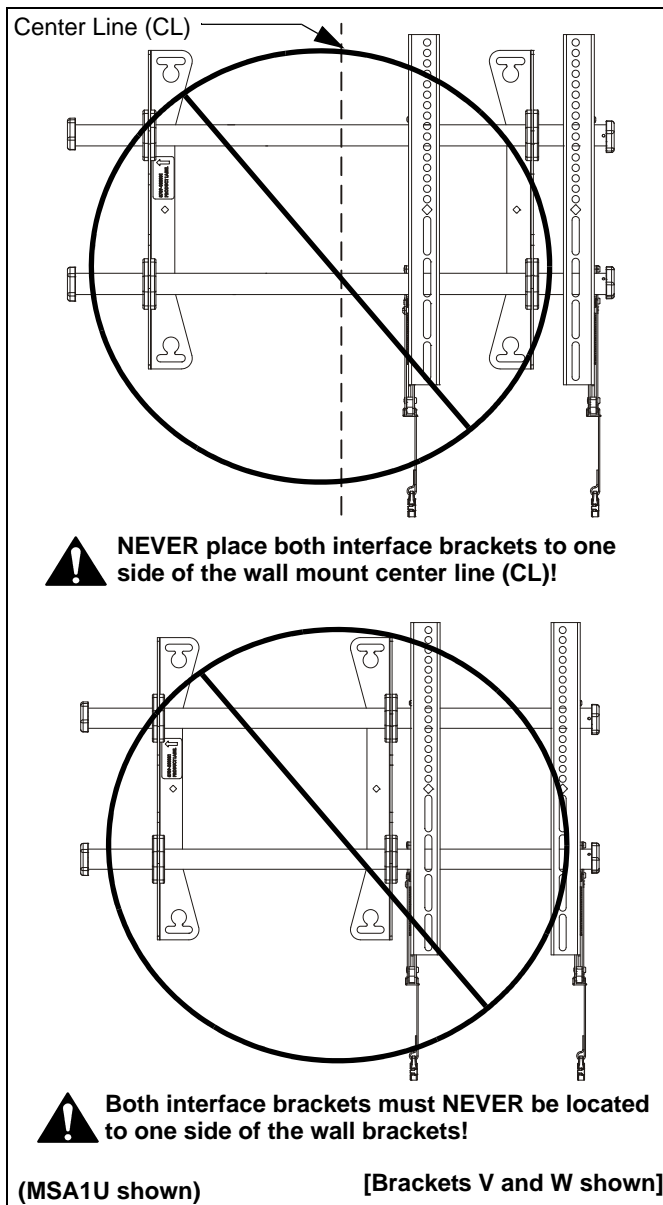

Figure 8
**NOTE:** NEVER place both interface brackets (V and W or X and Y) to one side of the wall mount center line! (See Figure 8)
**NOTE:** Do NOT allow both interface brackets (V and W or X and Y) to be located on same side of wall bracket. (See Figure 8)